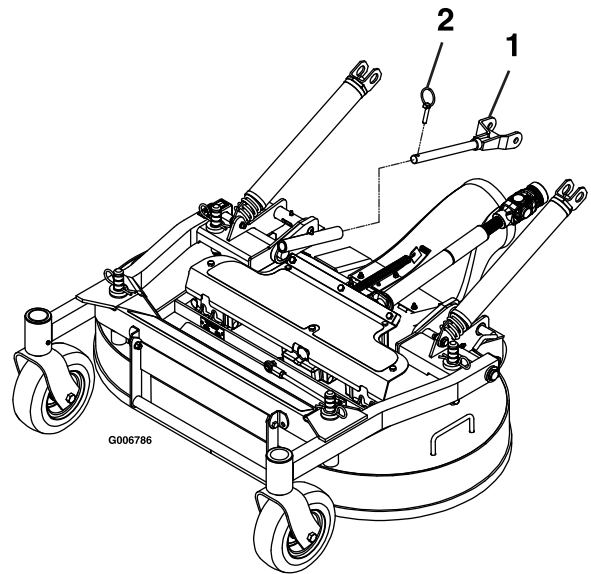

Figure 68
6. Remove the lynch pins at front of push arms on both sides of the machine (Figure 68).
5. Secure the push arms with the lynch pins on the left and right sides of the machine (Figure 68).